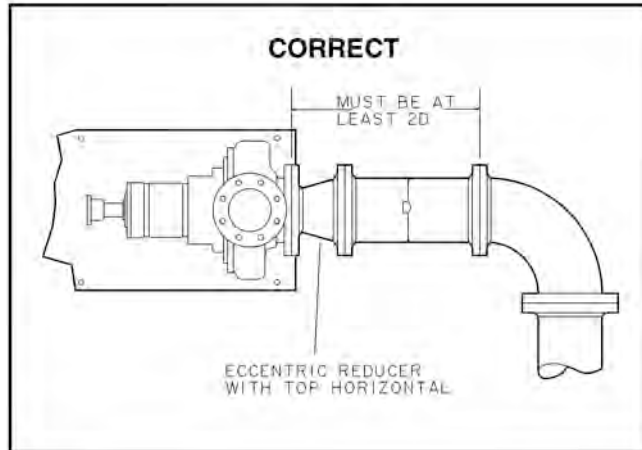

Figure 14: Correct
1. Use of elbows close to the pump suction flange should be avoided. There should be a minimum of two pipe diameters of straight pipe between the elbow and suction inlet. Where used, elbows should be long radius (Fig. 14).